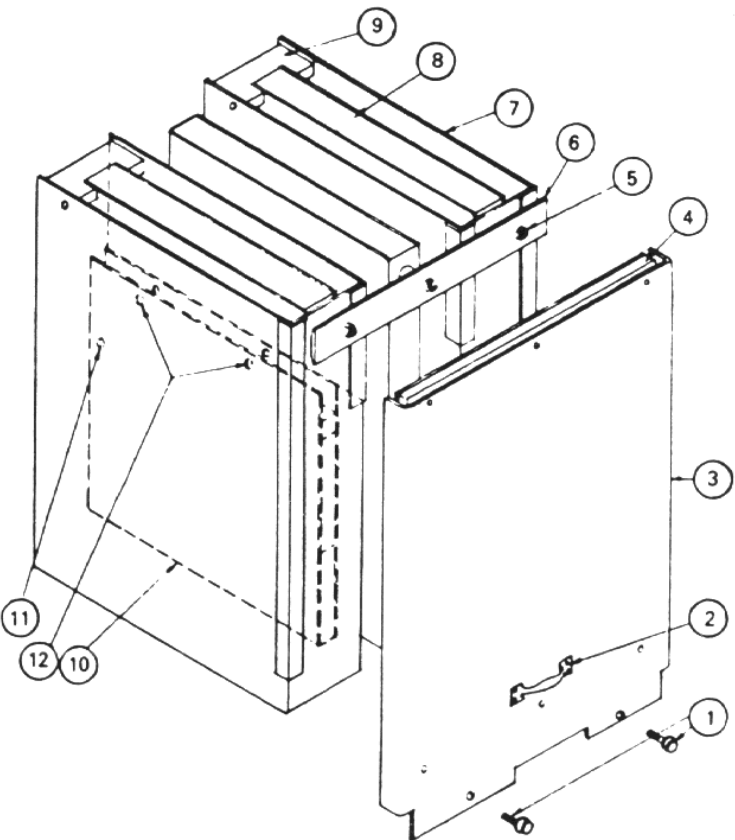

Fig. 4 — Method of Attaching Interphase Barriers and Front Cover
3.3 REMOVING INTERPHASE BARRIERS AND FLUX SHUNTS (See Figure 4)
3.9 INSTALLING FLUX SHUNTS AND INTER-PHASE BARRIERS (See Figure 4)